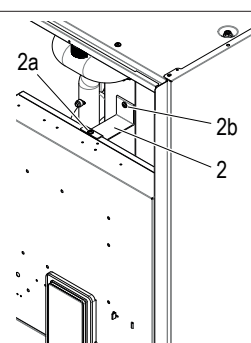

fig. 17 - view without front panel
- loosen the top screws (detail 2a - fig. 17)
NB: The rear fastening bracket can be removed (detail 2 - fig. 17) by removing the screw (detail 2b - fig. 17).